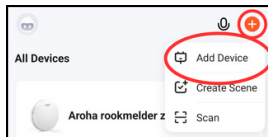

Figure 1: Add Device in app
5. Click on the “+” in the top right corner of the app home screen. Then choose “Add device”, as you see in Figure 1. The app will now automatically look for devices that are in pairing mode. Follow the steps as described in the app.